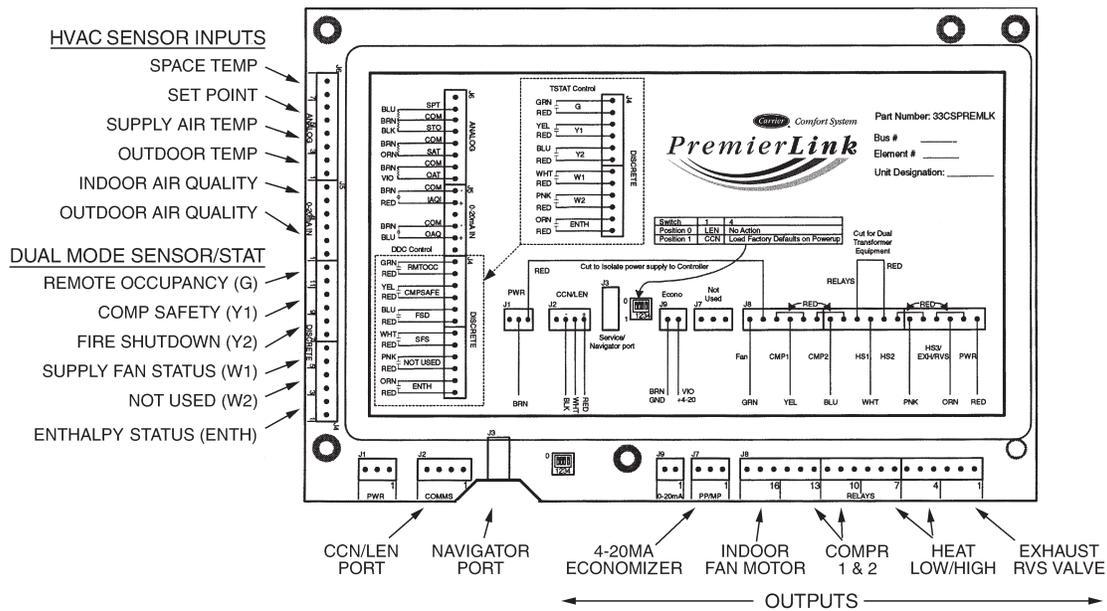

Fig. 41 - PremierLink™ Controller
The PremierLink controller (see Fig. 41) is compatible with Carrier Comfort Network® (CCN) devices. This control is designed to allow users the access and ability to change factory-defined settings, thus expanding the function of the standard unit control board. CCN service access tools include System Pilot (TM), Touch Pilot (TM) and Service Tool. (Standard tier display tools Navigator™ and Scrolling Marquee are not suitable for use with latest PremierLink controller (Version 2.x).)
Refer to Fig. 41 for PremierLink connection locations.